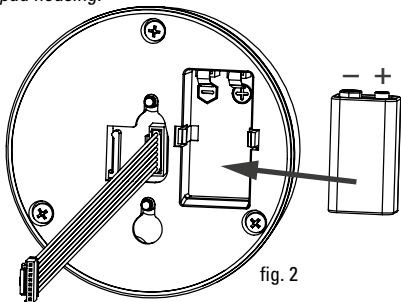

fig. 2
2. Remove old battery and install new battery (*Figure 2*). When battery is properly installed the green light will illuminate for three seconds and then beep twice.